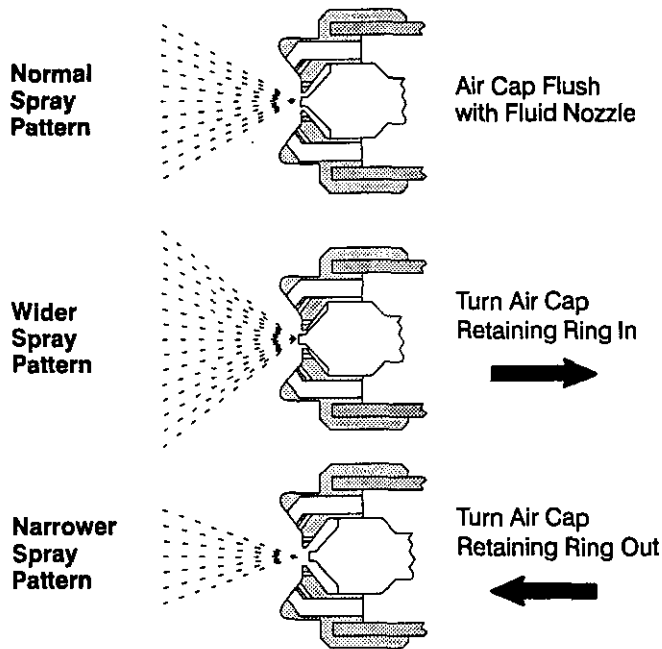

Fig. 13 02851
2. When fluid is first being applied, start with the fluid nozzle and air cap adjusted to the "normal spray pattern" position. See Fig. 13. Then adjust as needed.